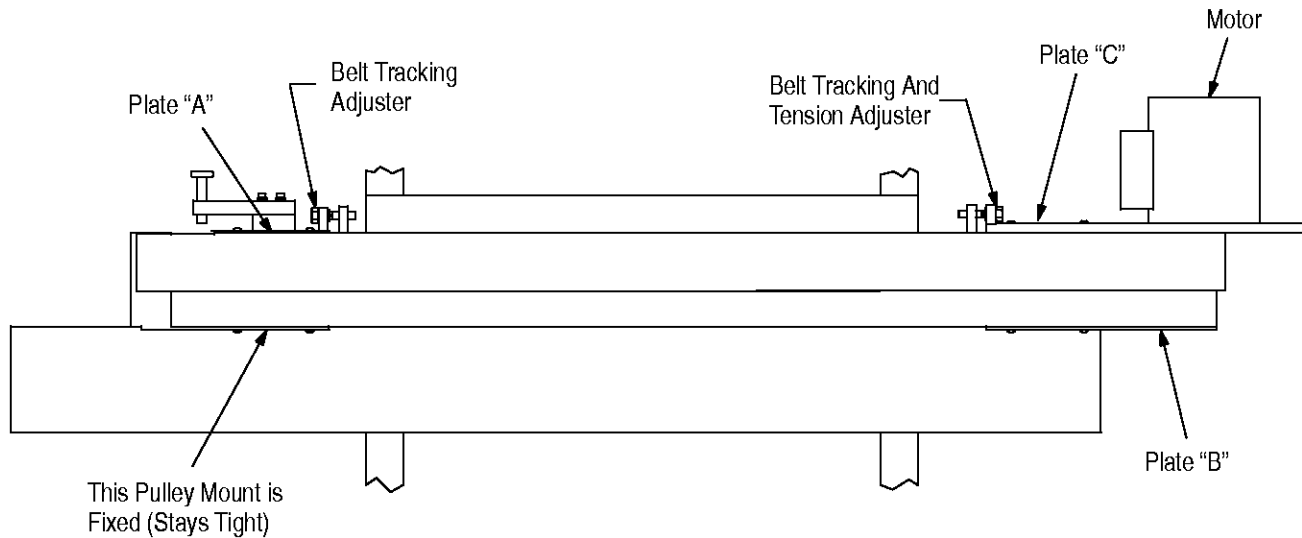

Figure 7
4.2. Belt Tracking Adjustment (Figure 7)